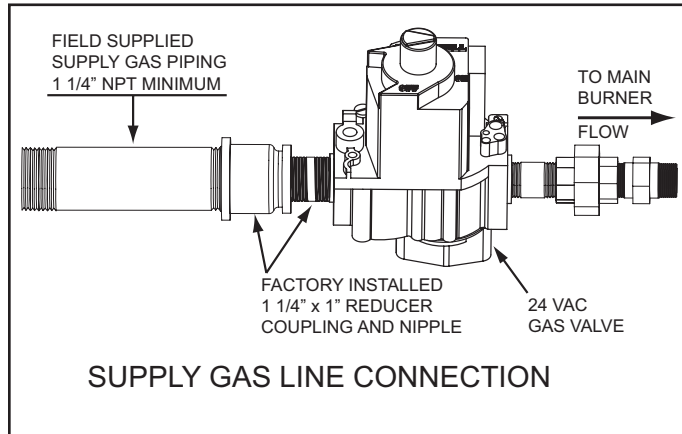

Figure 53
1. The water heaters covered by this manual are shipped from the factory with a 1 1/4" supply gas connection, see Table 1 on page 10. Short pipe nipples and reducer couplings are factory installed to increase the size of the water heater's 24 VAC Gas Valve inlet, see Figure 53.